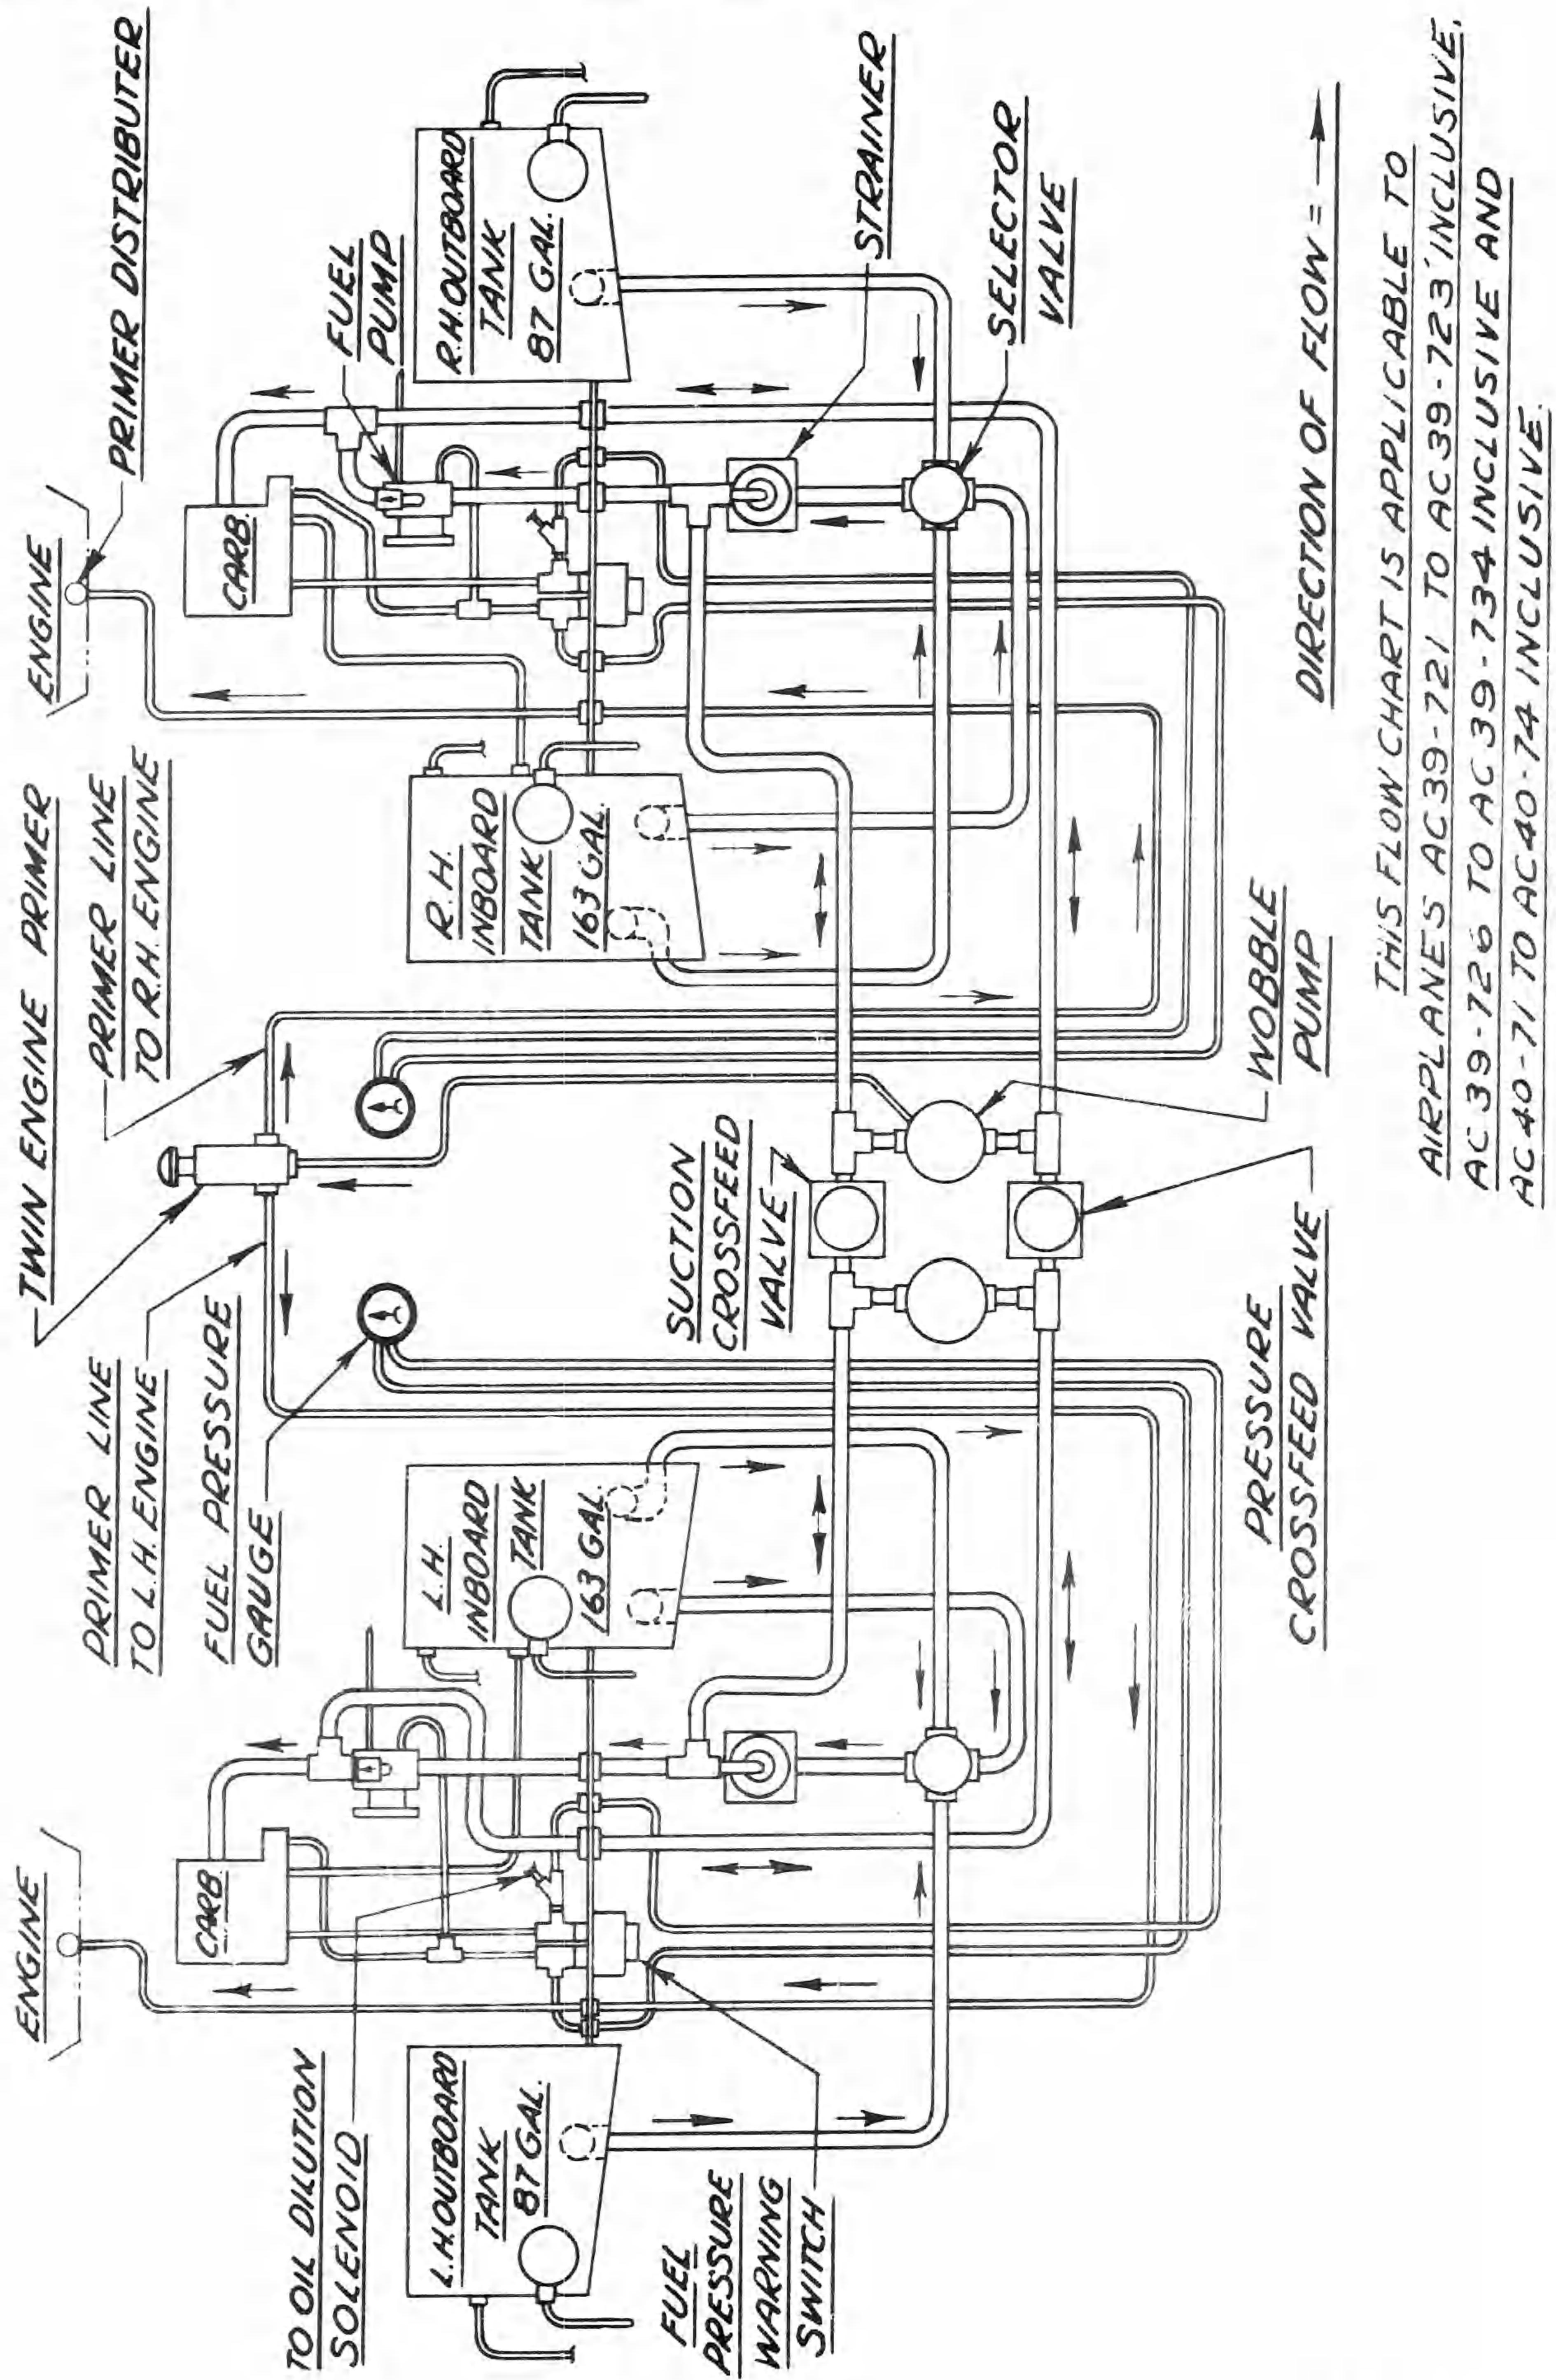
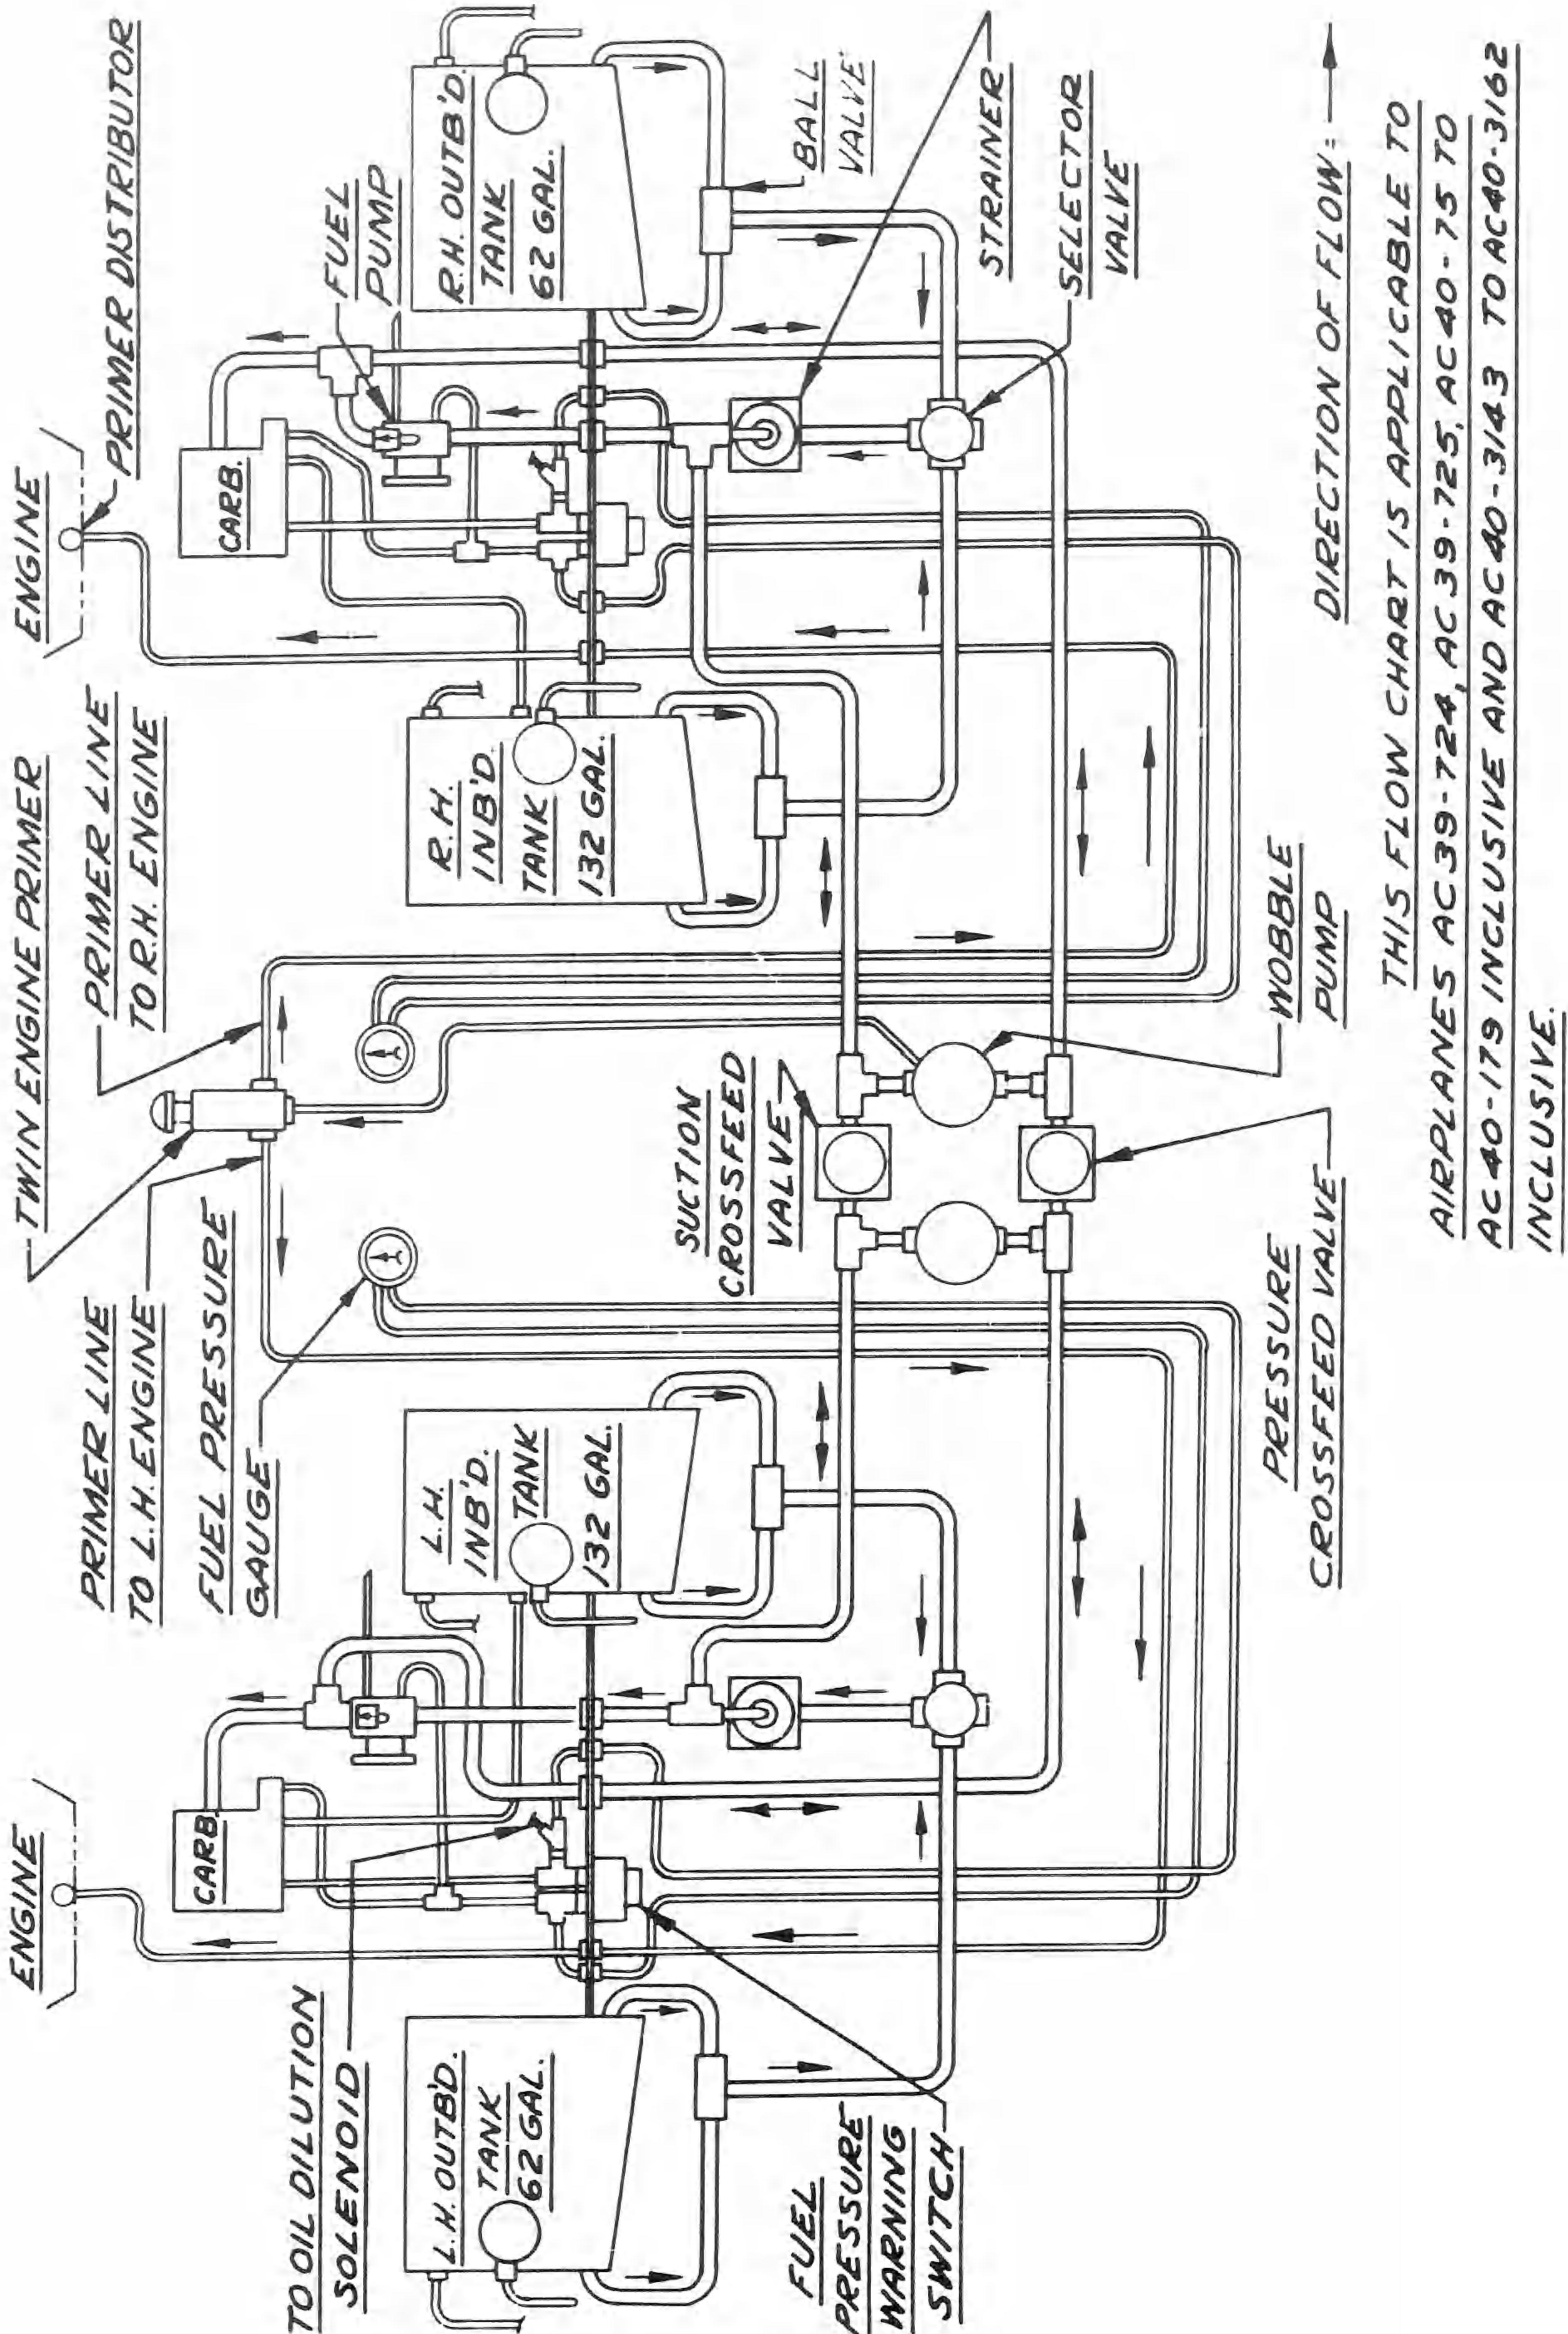

FIG. 3 - FUEL SYSTEM DIAGRAM - INTEGRAL TANKS
FIG. 3A - FUEL SYSTEM DIAGRAM - SELF SEALING TANKS
d. Fuel System. - Each engine has an individual fuel system with the left fuel tanks supplying the left engine and the right fuel tanks supplying the right engine. However, if necessary, any tank may be used to supply either or both engines by means of a pressure cross-feed or suction cross-feed system. The tank capacities and fuel system diagram for those airplanes having integral fuel tanks are shown in Figure 3. For tank capacities and diagram pertaining to the airplanes having the self-sealing tanks refer to Figure 3A. The fuel quantity of each tank is measured by Liquidometer gage. The normal operating pressure of the fuel system, approximately 14 pounds per square inch, is obtained by a fuel pump mounted on each engine. Two fuel pressure warning lights are mounted on the pilot's instrument panel and are designed to eliminate should the pressure drop below 12 (+0, -1) pounds per square inch. Until further instructions are issued, the fuel pressure warning lights are inoperative. Two wobble pumps are provided to furnish pressure φ